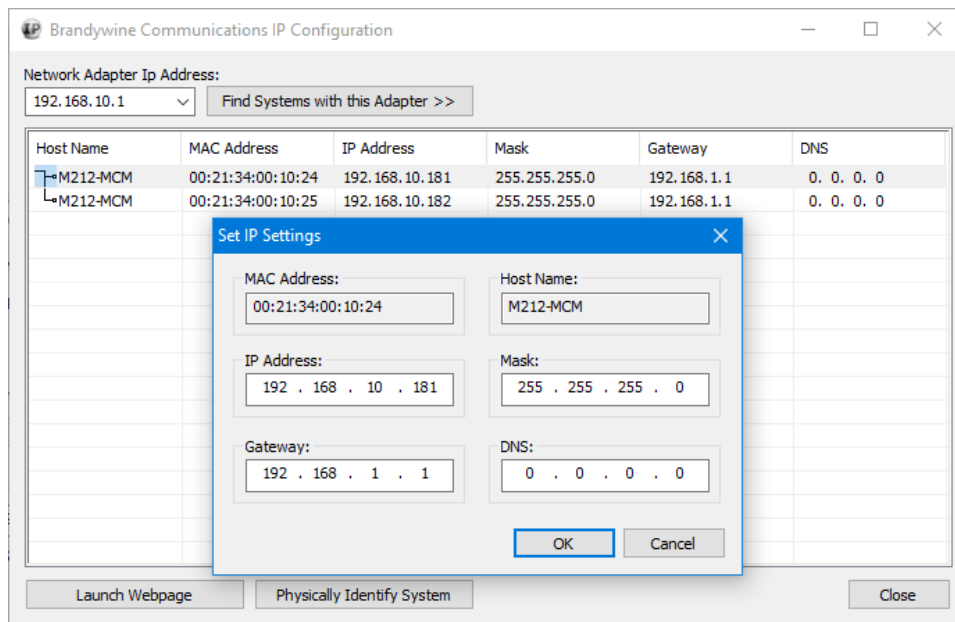

Figure 24. BWIPSetup Application
2. Launch the BWIPConfig.exe software, shown in Figure 24, to discover the MCM's IP addresses.